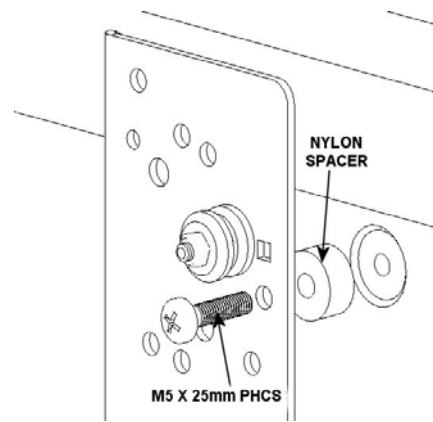
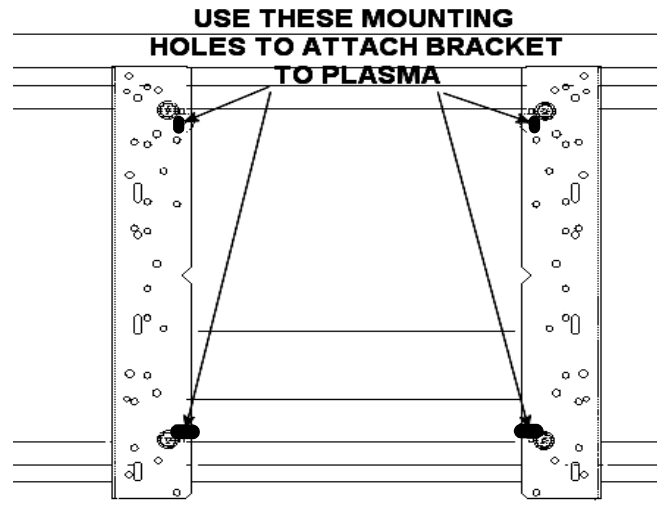

Figure 7. Spacer Installation for Group 1
Figure 8. Bracket Attachment for Group 1
3. Place the Nylon spacers over the mounting holes on your Large Flat Panel display (see Figure 7).
4. Place the interface brackets over the Nylon spacers (see Figure 7 and Figure 8).
6. Using the hardware in parts bag G, attach the interface bracket to your Large Flat Panel display using the holes that line up with your Large Flat Panel display mounting holes (see Figure 7 and Figure 8). Do not overtighten the mounting screws.